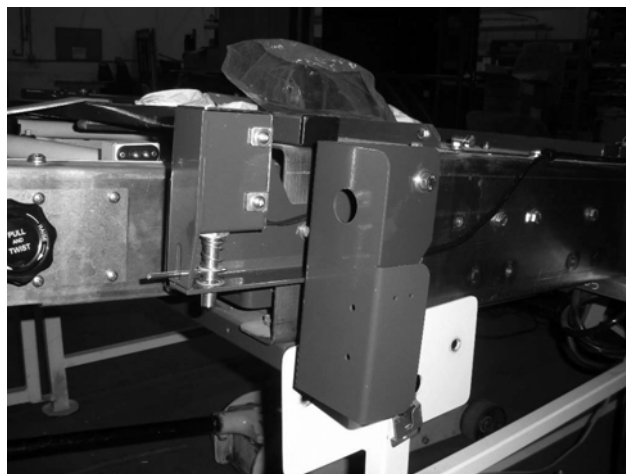

FIGURE 7: PENDANT BRACKET INSTALLATION
10. Attach Pendant Bracket (P/N 20226) onto Stow-Lock Assembly (P/N 44971) as shown in **Figure 7**. Set torque wrench to 32-34 LB-FT and tighten screws.